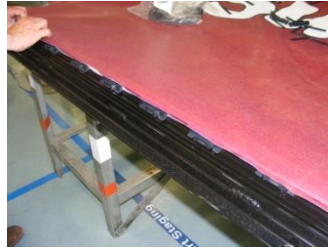

Figure 19: Clips in Channels
- e. Lay the mesh across the frame and snap each clip into the tension channels (**Figure 19**).